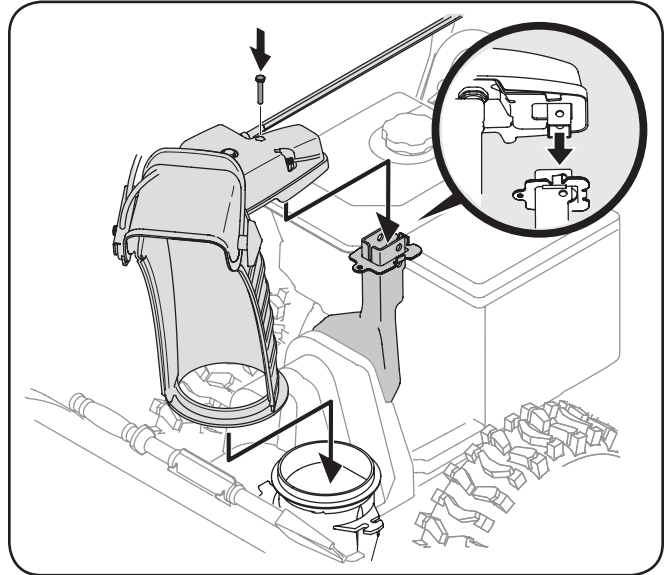

Figure 3-12
3. Place chute onto chute base and ensure chute control rod is positioned under the handle panel. Install hex bolt previously removed, but do not secure with wing nut at this time. See Figure 3-12.